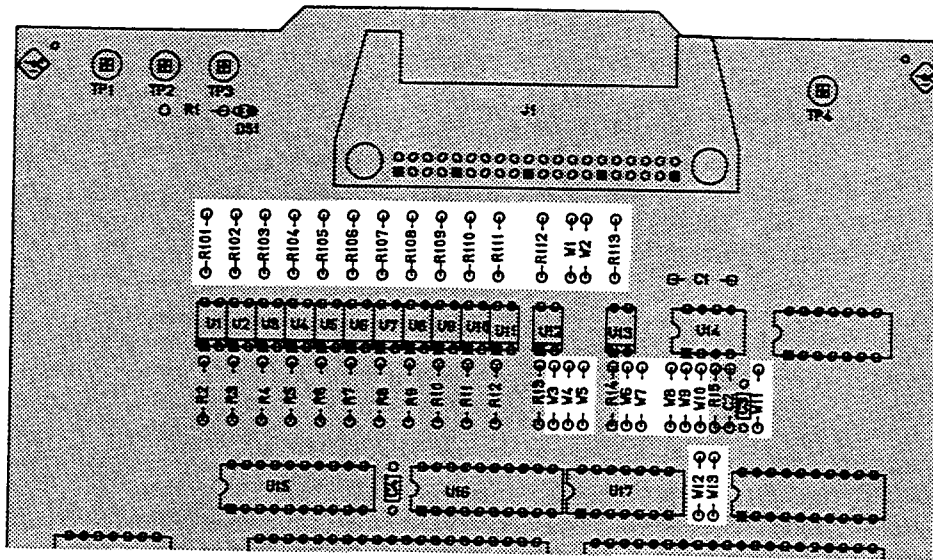

Figure 1-24. Jumper Settings
4. Set the jumpers on the handler interface board as shown in Figure 1-24. (Figure 1-24 shows the jumper settings when the board is shipped from the factory.)